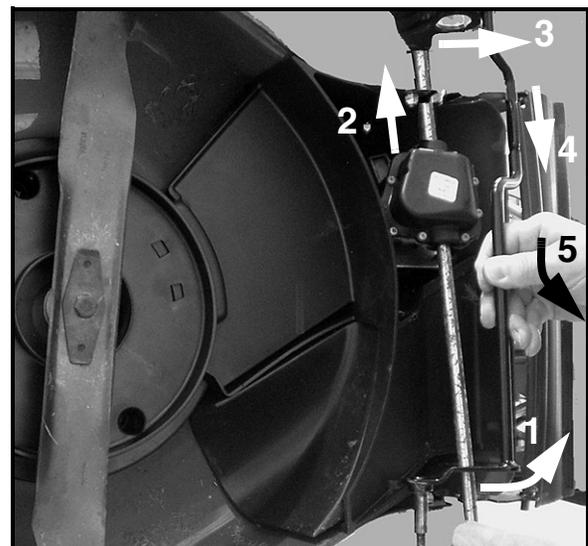

FIGURE 10
19. Pull the transmission out partially from the deck and slide each end of the pivot bracket assembly off of each end of the transmissions' output shaft. Discard the pivot bracket assembly. See Figure 10.
32. Install the new Pivot Bracket Assembly, Item 2, onto the transmission. Refer to Step 19 and Figure 10. Ensure that the offset in the pivot bracket rod is positioned at the transmission's body.